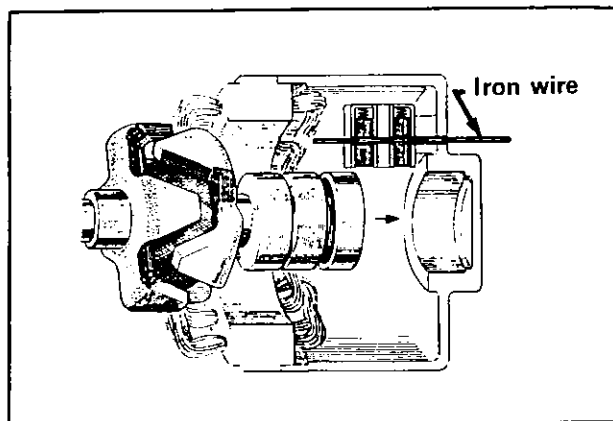

Fig. EE-65 Installation of brush holder (AS2040P)
2. Insert two brushes to the brush holder and push it against spring tension. Secure the brushes by an iron wire as shown in Figure EE-65.